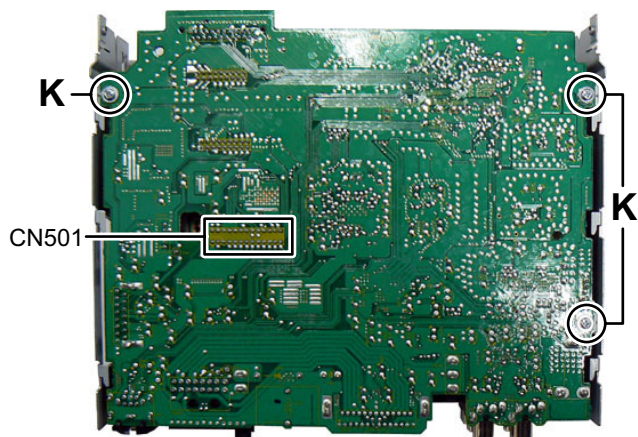

Fig.5
- (2) Remove the three screws **K** attaching the Main board. (See Fig.5)
- (3) Disconnect B-B connector CN501 of the Main board connected the CD mechanism and Main board. (See Fig.5)